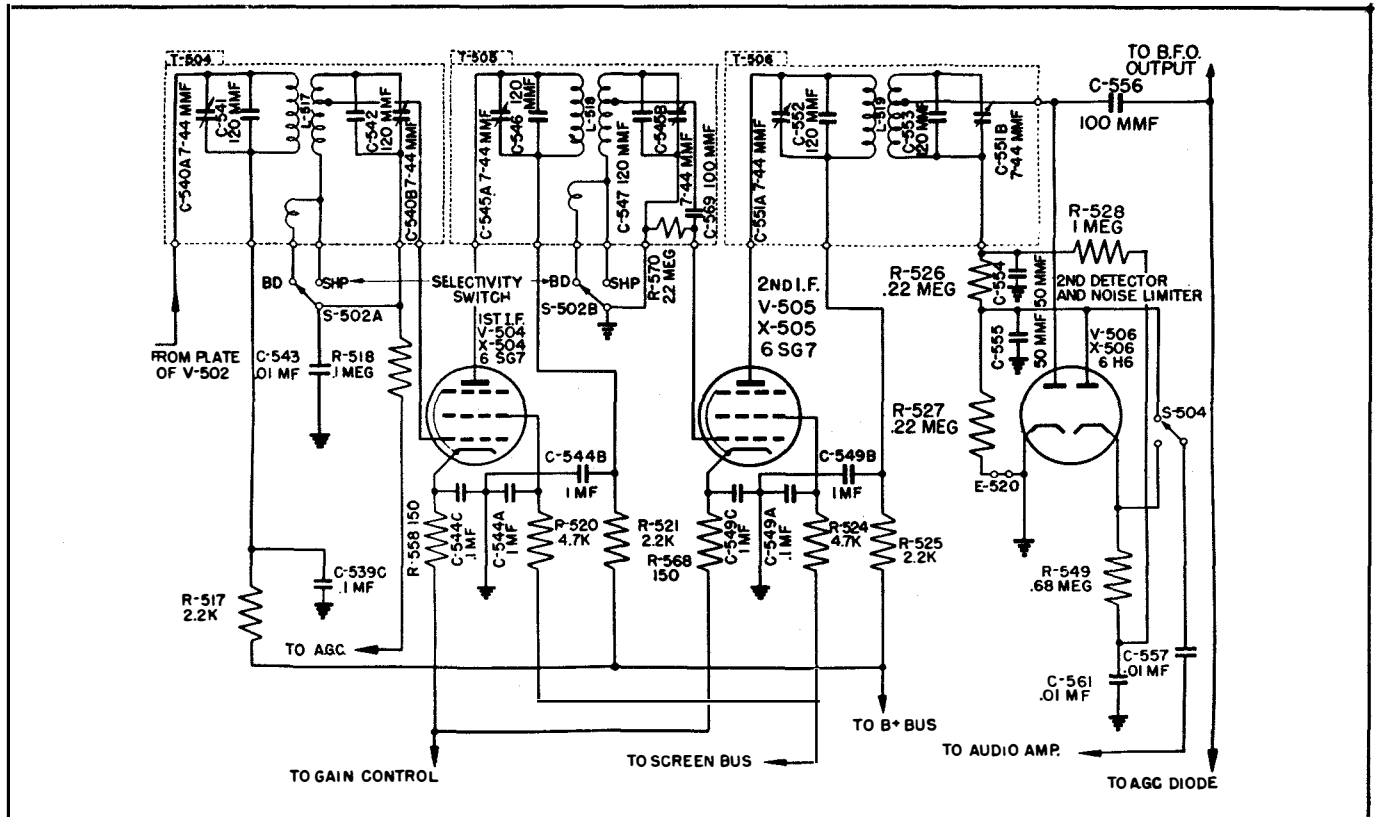

Figure 2-10. Intermediate Frequency Circuits
b. THE INTERMEDIATE FREQUENCY CIRCUITS (V-504, V-505). (See Figure 2-10).
c. THE SECOND DETECTOR AND NOISE LIMITER CIRCUITS (V-506). (See Figure 2-10).
The double diode 6H6, V-506, performs the double function of action as a second detector for incoming signals from the I.F. amplifier (and also for the output from the beat frequency oscillator) and as a noise limiter for sharp noise pulses (such as ignition interference) for which the amplitude is greatly in excess of the signal intelligence. When the "NOISE LIMITER" switch S-504 on the front panel is in the "OFF" position, as in Figure 2-10, the second diode of the 6H6 is cut out of the circuit and the first diode functions as a conventional diode detector, with R-526 and R-527 as diode load resistors. If desired, detector current through these resistors may be measured at the terminals E-520 on the rear of the chassis by removing the jumper, and inserting a microammeter into the circuit. When the "NOISE LIMITER" switch S-504, is in the "ON" posi-